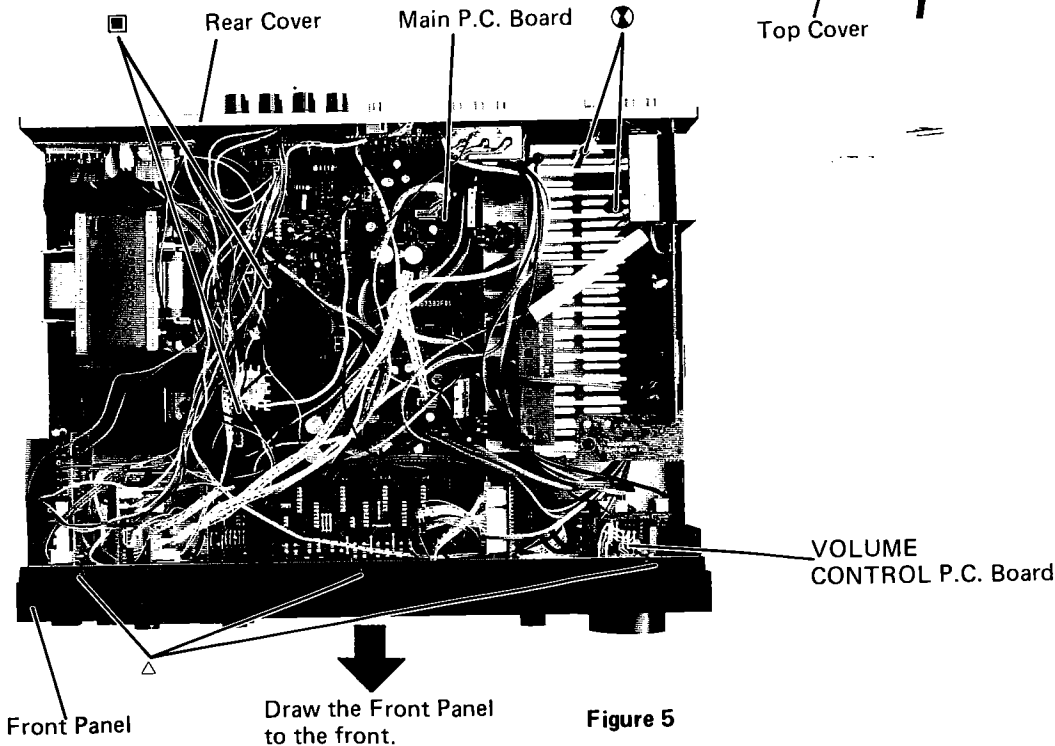

Figure 5
- (2) Remove three screws marked "△" as shown in Figure 5.
- (3) Front panel can be removed by pulling it forward. But when the panel is engaged tightly, pull the panel end little by little, and the panel will be removed easily.
- (1) Remove ten screws marked "⊗" as shown in Figure 5, 8 and 10.
- (2) Disconnect all wires from the Equalizer P.C. Board.
- (1) After removal of Equalizer P.C. Board and Rear Cover, remove four screws marked "■" as shown in Figure 5 and 13.
- (2) Disconnect all wires from the Main P.C. Board.